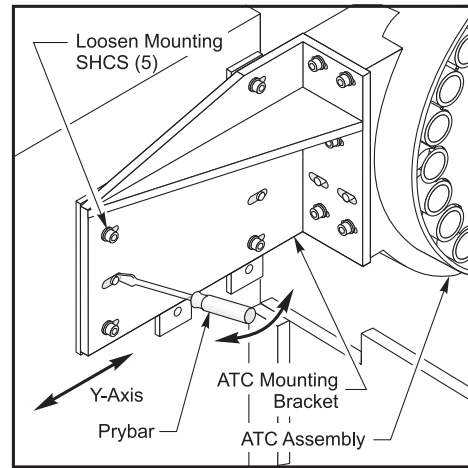

Figure 3.12-12 ATC Assembly Y-axis alignment.
9. If necessary, loosen the five ATC SHCS (Refer to Figure 3.12-12). Insert a small pry bar between the locating pins and the mounting bracket. Adjust the ATC along the mounting slots and align the tool and spindle's center.